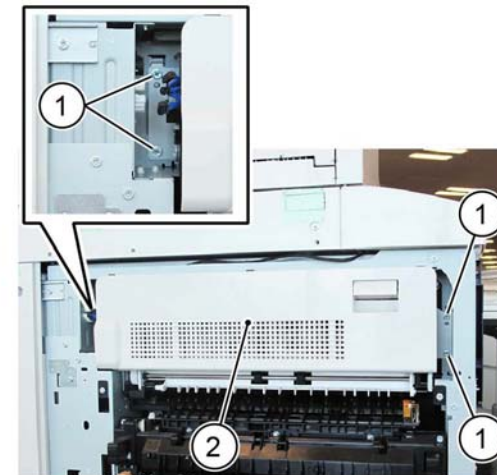

Figure 3 Transport assembly removal
9. Remove the exit 2 transport assembly, Figure 3:
- a. Remove four screws (1).
- b. Remove the exit 2 transport assembly (2).